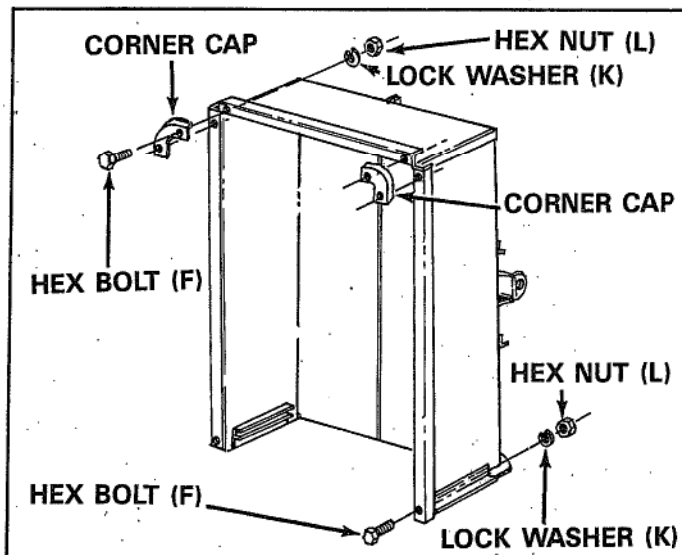

FIGURE 9
14. Assemble two front top corner caps and two bolts in top flanges through tailgate reinforcement bracket using 1/4" x 1/2" hex bolts (F), lock washers (K) and hex nuts (L). See figure 9. Tighten all bolts.